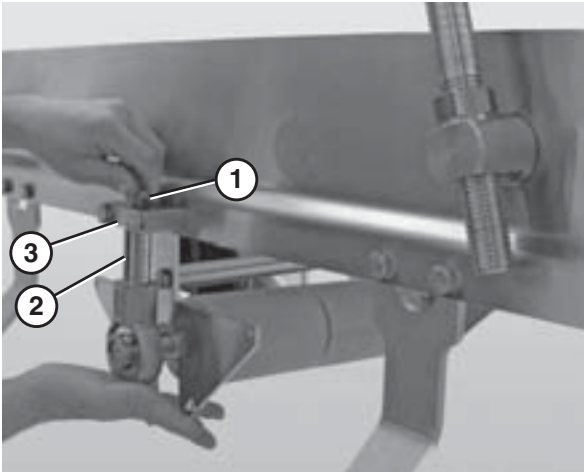

Figure 68
14. Remove the bolt (Figure 68, item 1) that connects the drive shaft assembly (Figure 68, item 2) to the block shaft mount (Figure 68, item 3).